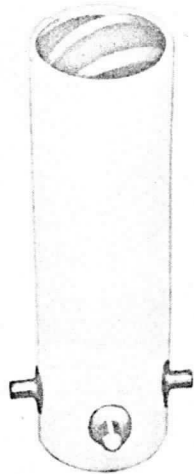

FIG. 1
**DEFLECTION.** Electrostatic deflection in the 1343-010 is accomplished through the use of a specially designed deflection electrode configuration called the Deflectron. A photograph of the Deflectron is shown in Figure 1. The conventional crossed pair of deflection plates causes the electron beam to be deflected sequentially; that is, in passing between the first set of plates it is deflected in one plane and then when reaching the second set of plates it is deflected in the other plane. The Deflectron causes the beam to be deflected both horizontally and vertically simultaneously as in magnetic deflection. This common center of deflection reduces defocusing caused by dissimilar horizontal and vertical scanning angles, the undesirable effects of fringe fields such as astigmatism, coma and keystone and other aberrations found in conventional deflection plate scanning. In a GEC Deflectron, quadrature is as good as that obtained in the best magnetic deflection yokes. The Deflectron gives considerable freedom in selection of scanning formats, for instance, horizontal and vertical deflection may be interchanged or rotated as desired.